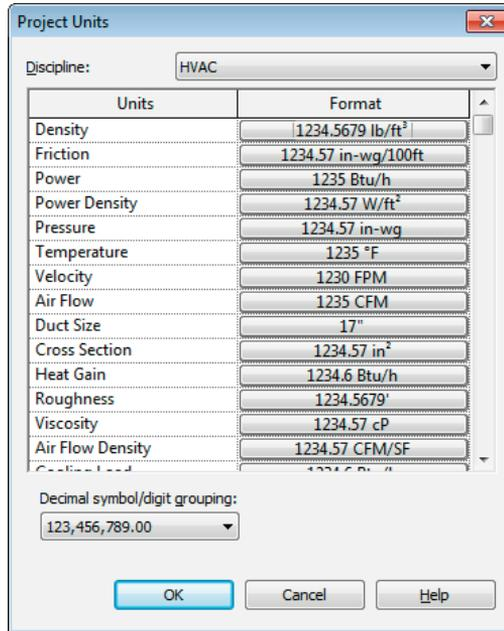

Figure 2-29 Table in the **Project Units** dialog box displaying various units required in the HVAC workflow
2. Project Units: Refer to Figure 2-29
- c. Specify the Project Units, refer to Figure 2-29.
2. In the **Project Units** dialog box, select the **HVAC** option from the **Discipline** drop-down list; the various units required in the HVAC workflow are displayed in a table located below the **Discipline** drop-down list, refer to Figure 2-29.